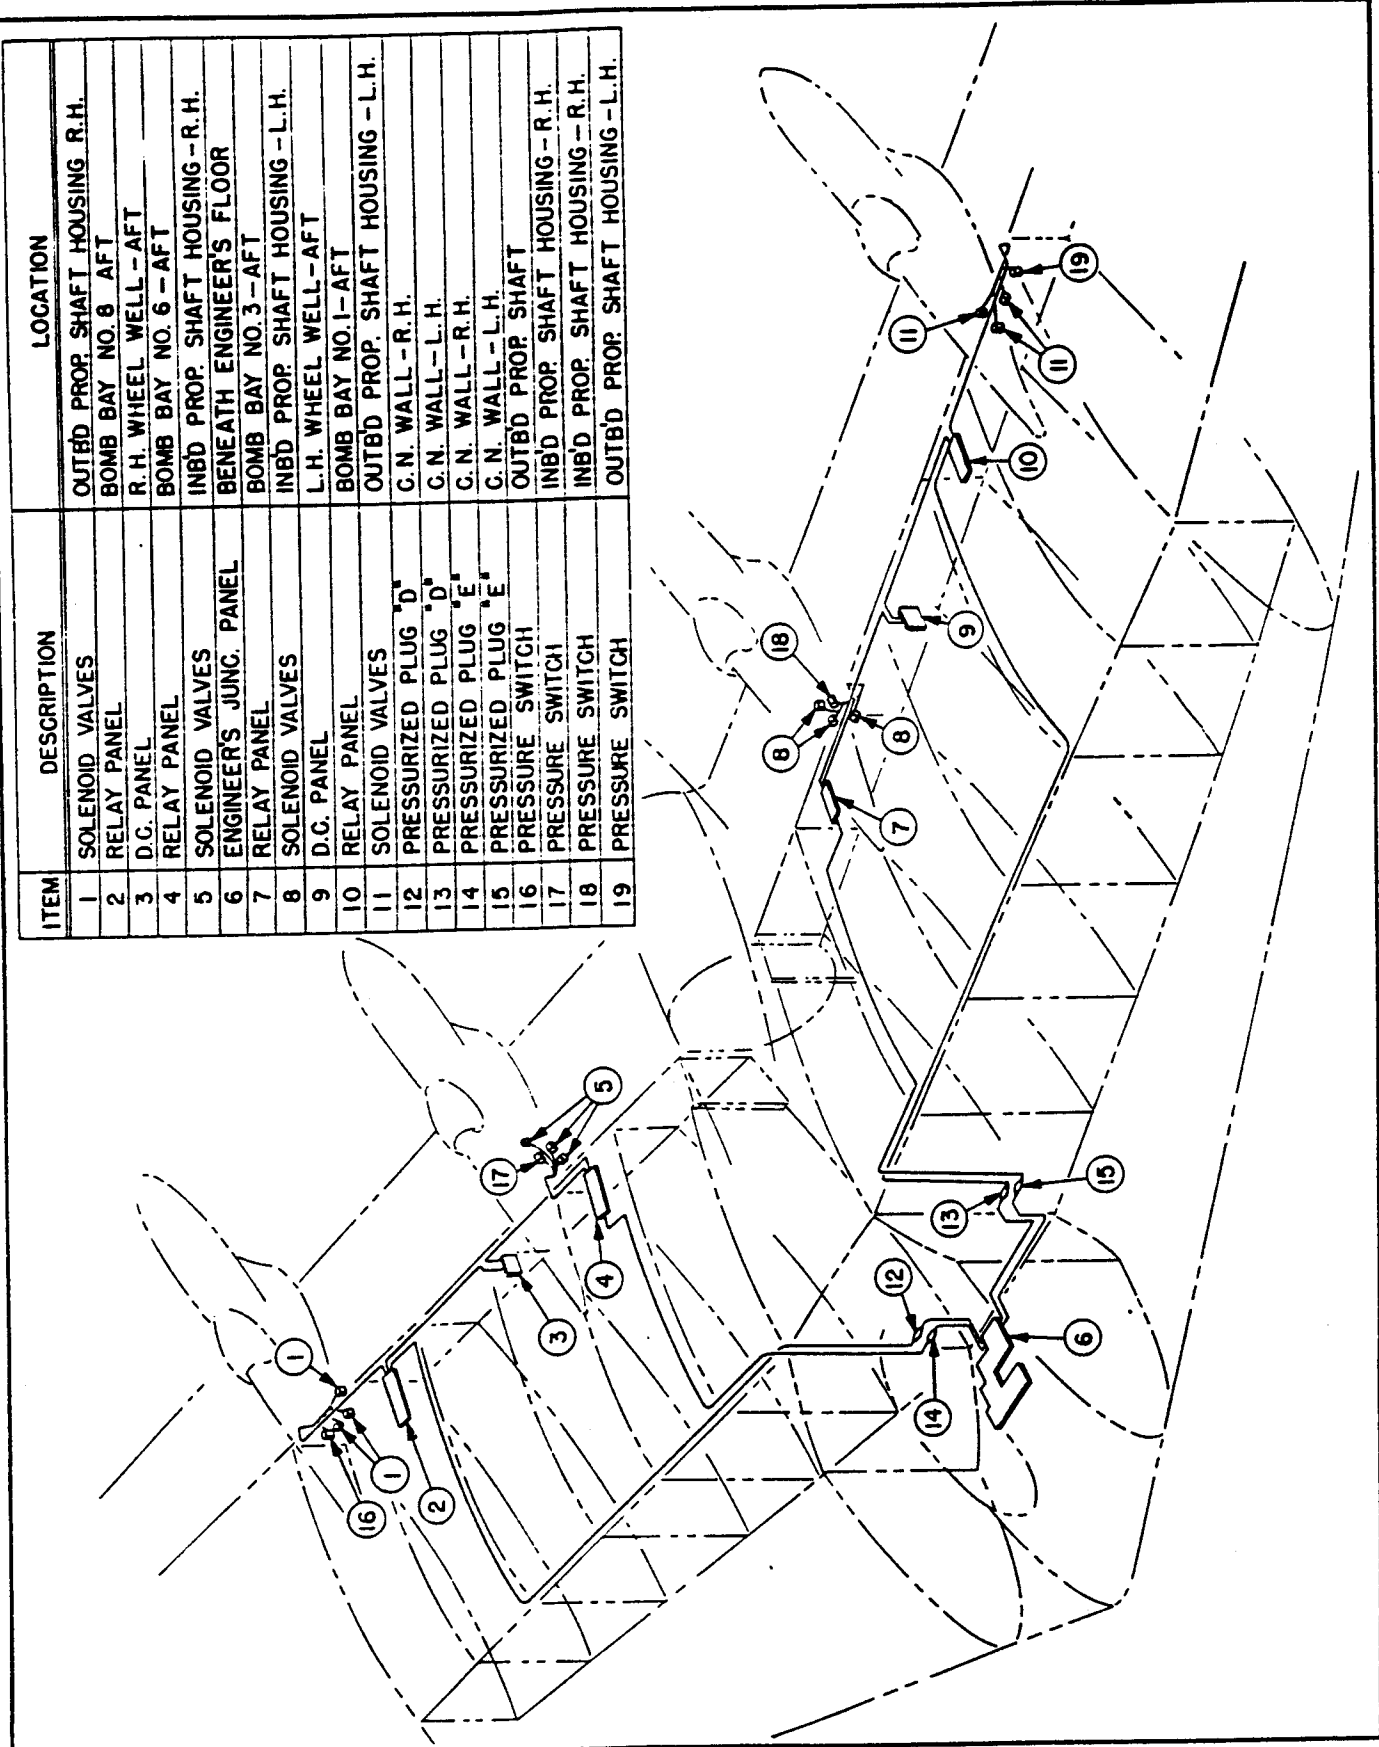

Figure 4. Hydraulic Power Boost Electrical Installation
3. ELECTRICAL. (See figure 4.)